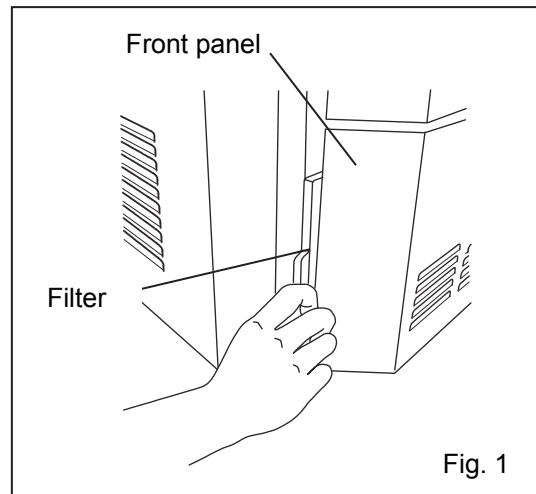

Fig. 1
1. The filter is located in the left back of the front panel as shown in Fig. 1.